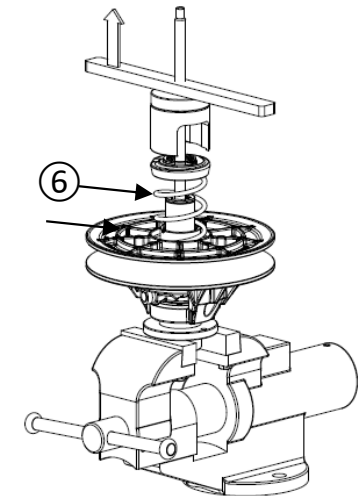

Figure 20
- Slowly unscrew the bar on the threaded rod to release the spring ⑥ tension (figure 20).
- Remove the snap ring ⑨, the spring abutment ⑧, the spring seat ⑦ and the spring ⑥.